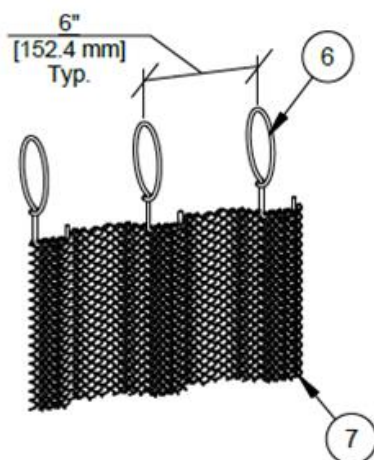

Figure 4a
The GuardianCoil Mesh requires the Industrial Safety Hooks (6) to be threaded through the fabric at 6" on center [152.4 mm]. (Fig. 4a)